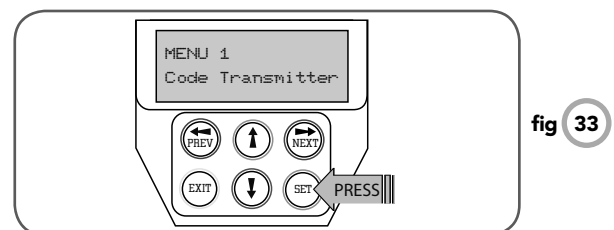

fig 33
1. Press NEXT to navigate to the Menu 1 **(Fig. 33)**.